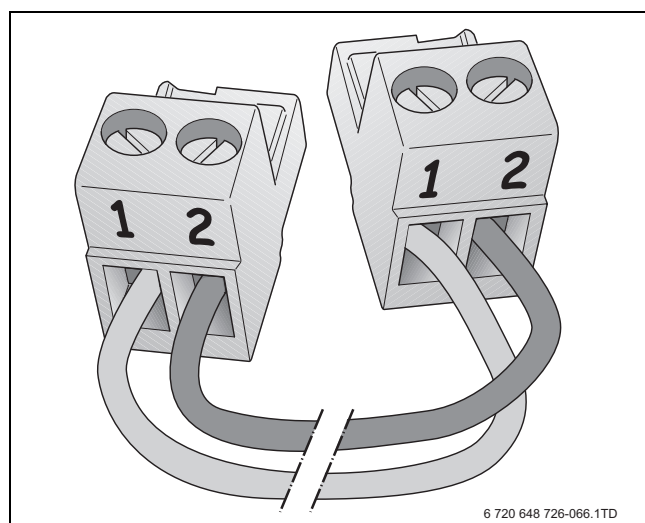

Fig. 66 EMS bus polarity
- Make a sufficiently long EMS bus connection cable, using a 2-core cable of 0.4 - 0.75 mm² and the connector enclosed with the module (→ fig. 66). Important: Use the connector of the same colour as the connections on the module.